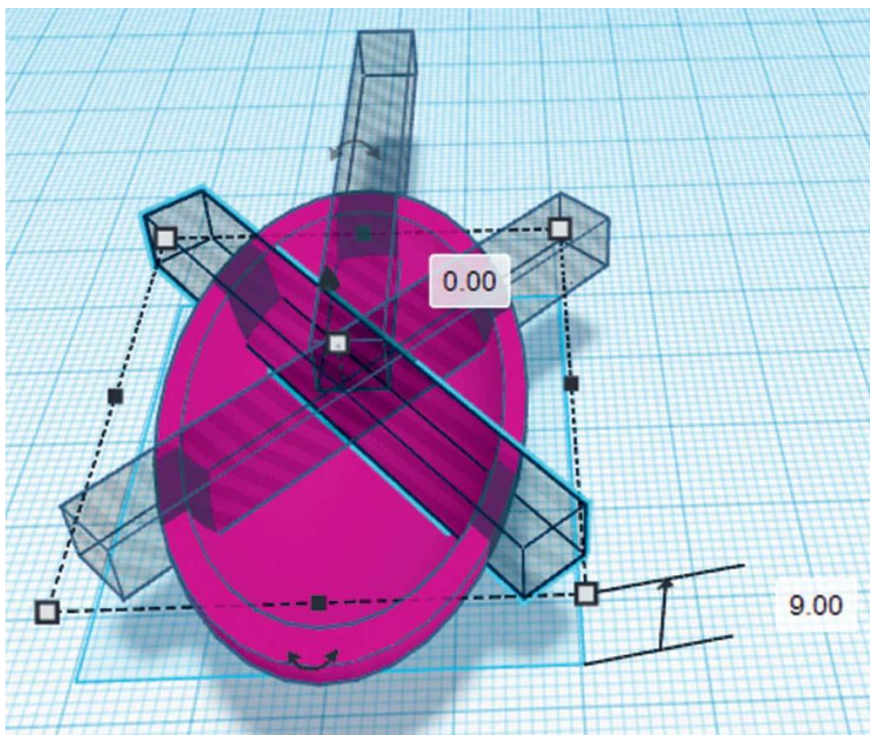

FIG. 4: Use rectangular hole-bars to create the teeth of the pasta spoon.
4. Now create three **Rectangular Hole-Bars** by stretching the **Box** tool. The width of each bar depends on how wide you want the gaps between the teeth of the pasta spoon to be. The image below shows them at 6 mm. Arrange them so the pasta spoon teeth will be approximately equally spaced (fig. 4).